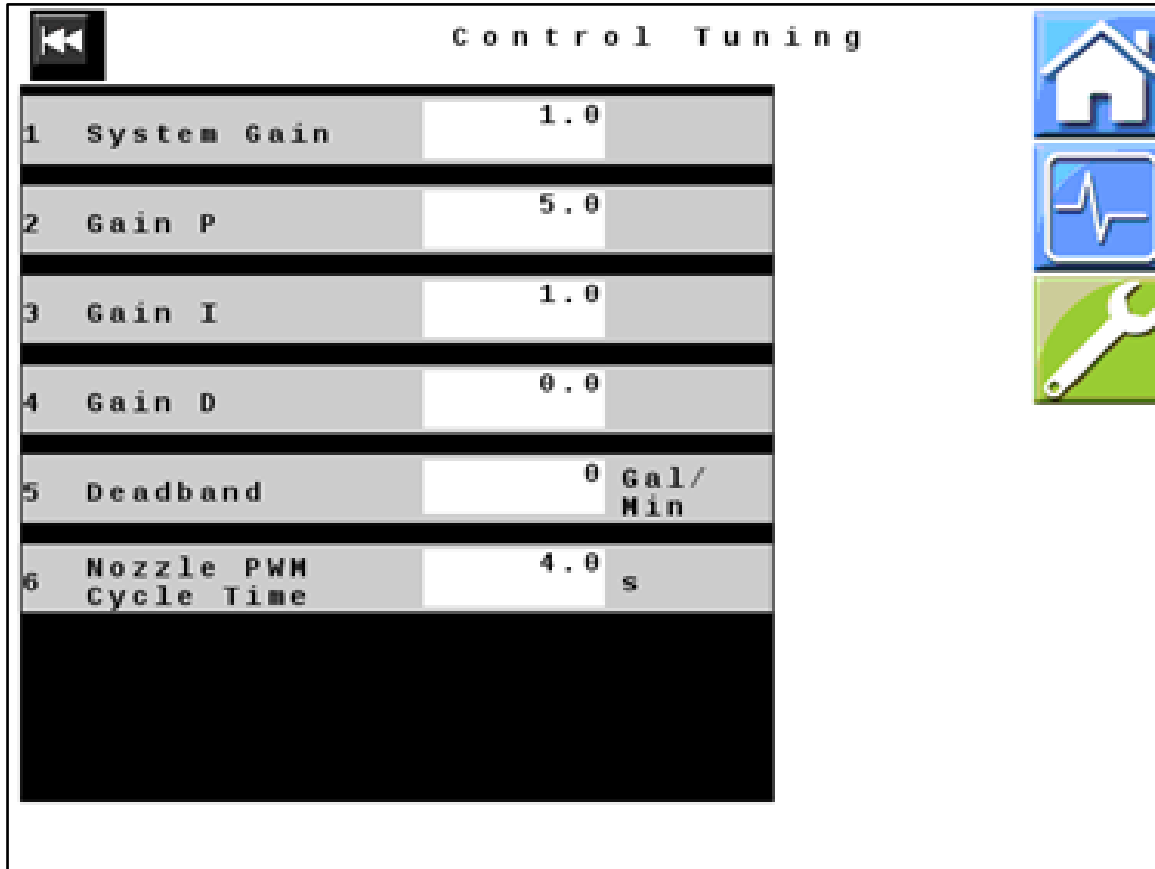

Figure 19 — Control Tuning
32. *Figure 19:* Verify that all values displayed on your unit match those shown here. Change values if necessary.